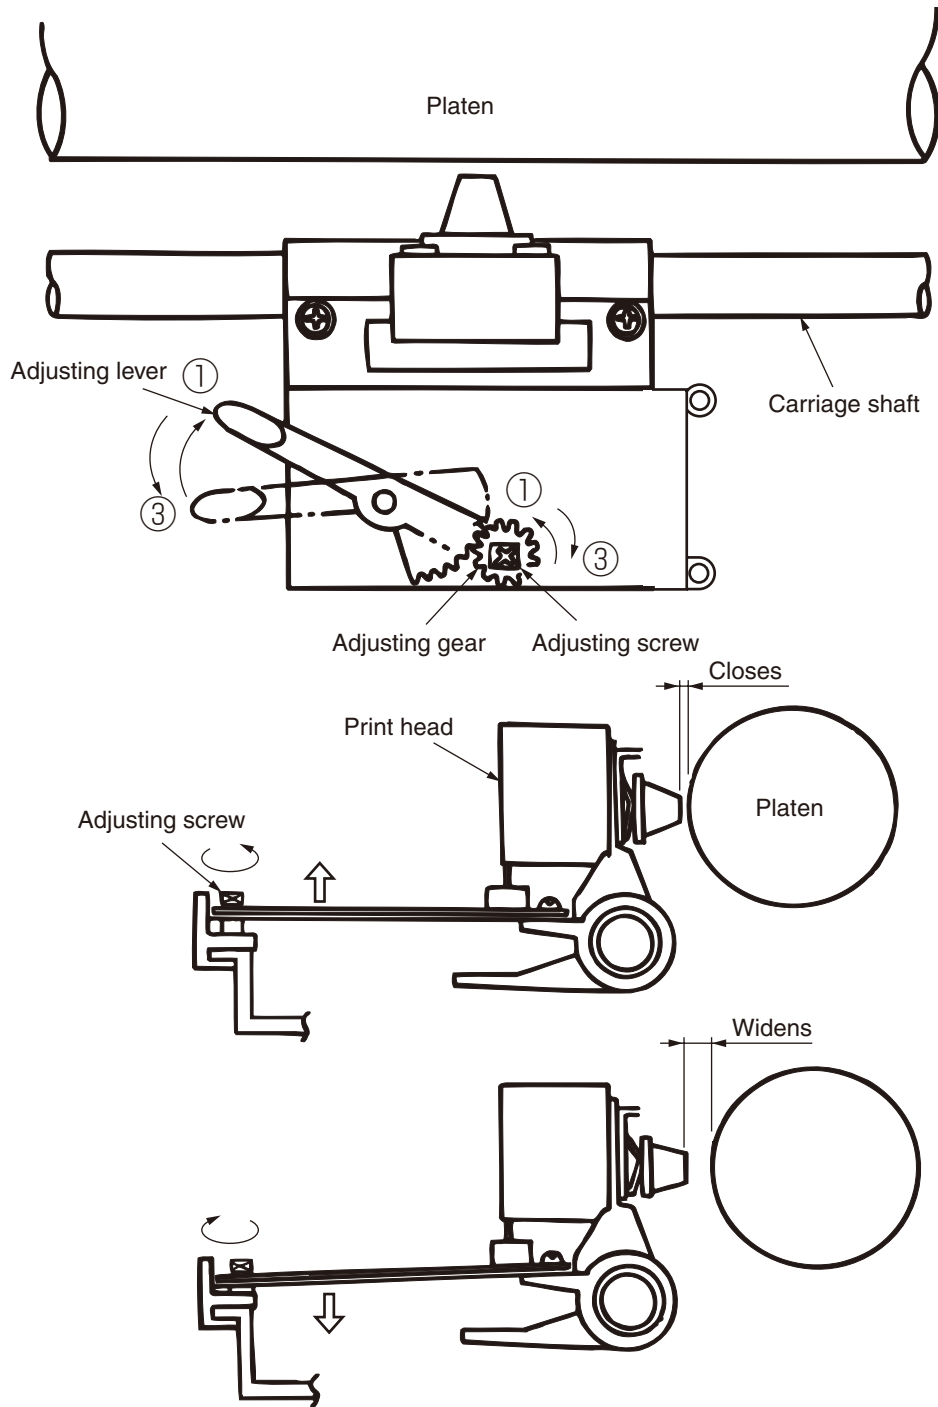

Figure 5
2.2.3 Head-Gap Adjusting Mechanism (see figure 5)